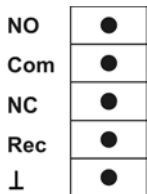

Figure 5 – Connection for Analogue Output and Relay Output (Plug-in terminals, Screw terminals)
- C Connection for relay output and analogue output (🔗📖 Figure 5, page 13)
The connection (🔗📖 Figure 3 C, page 12 and Figure 5, page 13) contains the analogue output of the transmitter and if at the transmitter available, its relay output.